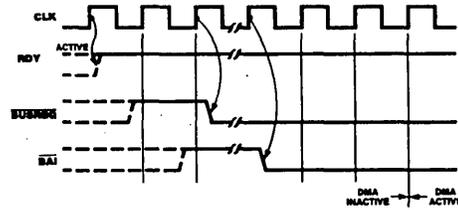

Figure 15. Bus Request and Acceptance
**Bus Requests.** Figure 15 illustrates the bus request and acceptance timing. The  $\overline{RDY}$  line, which may be programmed active High or Low, is sampled on every rising edge of  $\overline{CLK}$ . If it is found to be active, and if the bus is not in use by any other device, the following rising edge of  $\overline{CLK}$  drives  $\overline{BUSREQ}$  low. After receiving  $\overline{BUSREQ}$  the CPU acknowledges on the  $\overline{BAI}$  input either directly or through a multiple-DMA daisy chain. When a Low is detected on  $\overline{BAI}$  for two consecutive rising edges of  $\overline{CLK}$ , the DMA will begin transferring data on the next rising edge of  $\overline{CLK}$ .